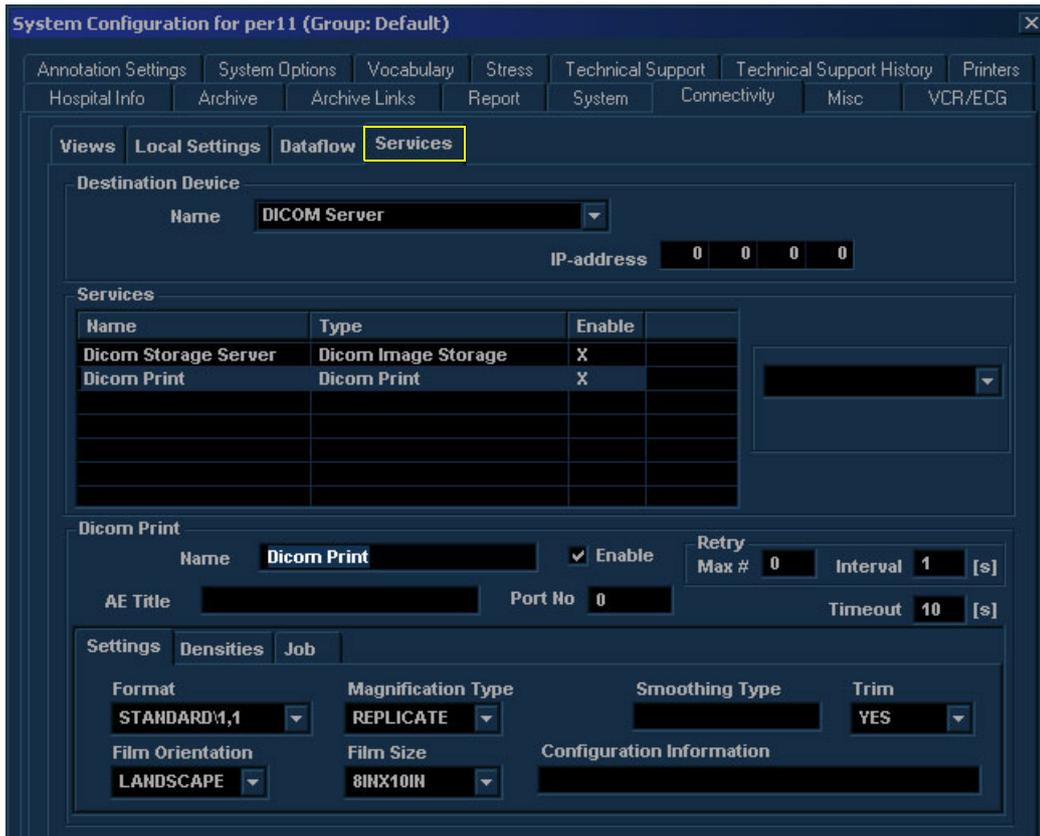

Figure 3-36 Setting up DICOM Print
- 4) Enable the **DICOM printer** option, as required (under the *Services* sub-tab) - see Figure 3-36.